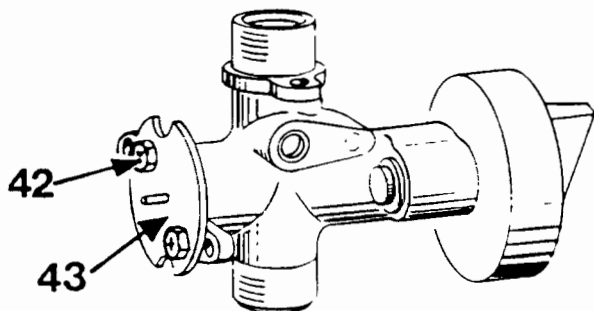

FIG. 20
Remove the two screws (42) and remove the retaining plate (43) Fig. 20. to expose the push rod seal.